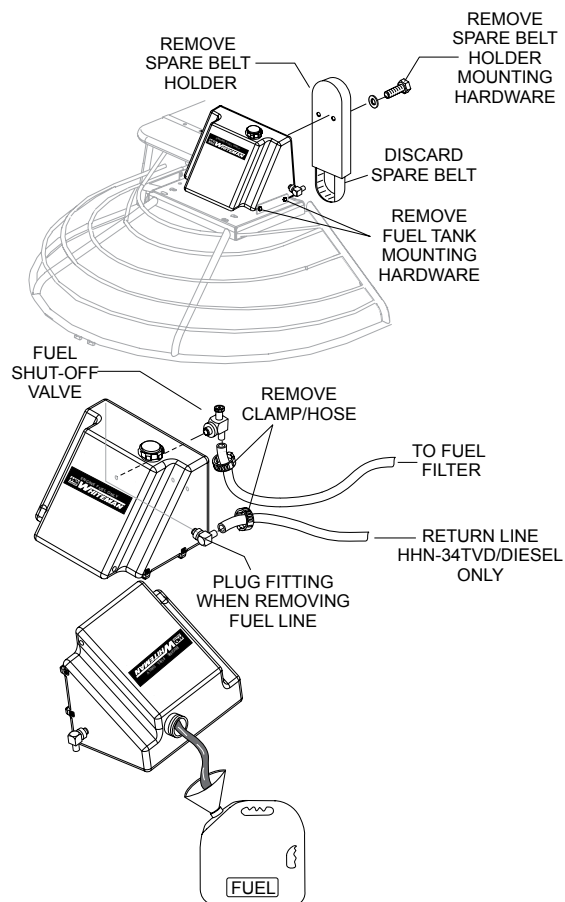

Figure 6. Fuel Tank Removal
Refer to Figure 6.
1. Remove the 2 bolts that secure the spare CVT belt holder (Figure 6) to the fuel tank. Remove and discard spare belt holder and spare belt.